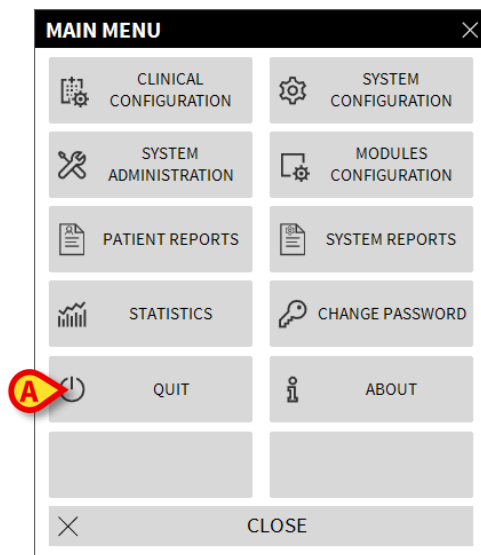

Fig 40
The **Quit** button on the DIGISTAT® main menu (Fig 40 **A**) makes it possible to quit the DIGISTAT® environment.
The DIGISTAT® main menu will open (Fig 40).
- Click the **Quit** button (Fig 40 **A**)